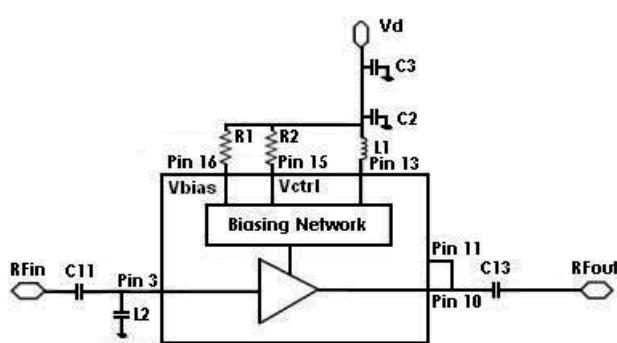

Figure 46. Application Circuit Diagram
1.  $V_{bias}$  and  $V_{ctrl}$  can be externally controlled by change external biasing resistors  $R_1 = R_{bias}$  and  $R_2 = R_{ctrl}$  (as shown in Fig. 46).
1. Vbias and Vctrl can be externally controlled by change external biasing resistors  $R_1 = R_{bias}$  and  $R_2 = R_{ctrl}$  (as shown in Fig. 46).